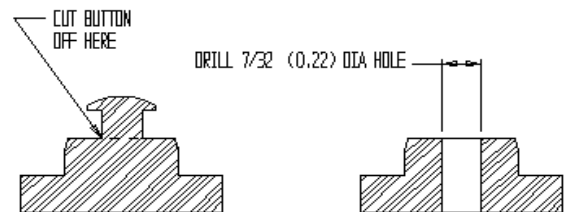

Figure 1
- D. Cut the molded head off from the 4 rubber bumpers. Install 2 rubber bumpers into the rectangular holes in the bottom of the molded bracket. Drill a 7/32 dia. hole through each rubber bumper using the hole in the molded bracket for positioning. Repeat for the second molded bracket. See Figure 1.